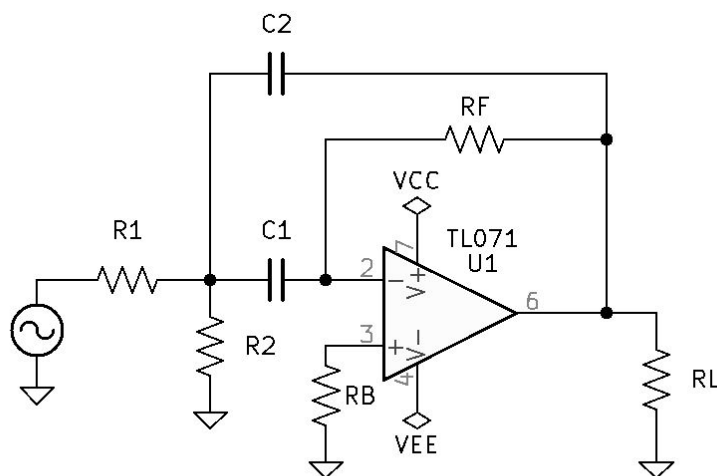

Figure 8.8: Single Stage Band-Pass Second-Order Active Filtering Circuit.
1. See Figure 8.8 *Single Stage Band-Pass Second-Order Active Filtering Circuit* on page 72.